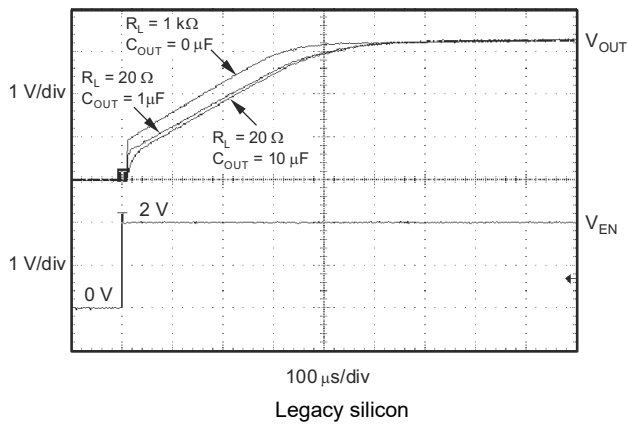

Figure 5-39. TPS73233 Turn-On Response
The enable pin (EN) is active high and is compatible with standard TTL-CMOS levels. A  $V_{EN}$  below 0.5V (maximum) turns the regulator off and drops the GND pin current to approximately 10nA. When EN is used to shut down the regulator, all charge is removed from the pass transistor gate. A  $V_{EN}$  above 1.7V (minimum) turns the regulator on and the output ramps back up to a regulated  $V_{OUT}$  (see Figure 5-39).